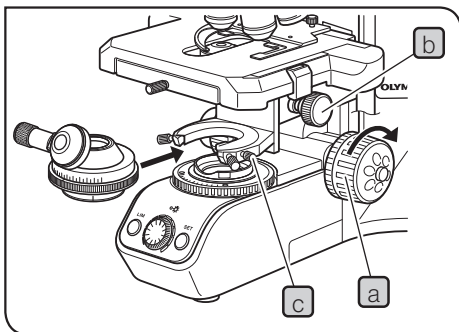

Fig.57
**11 Attaching the condenser (Fig.57)**